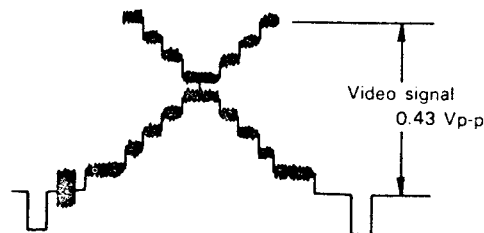

Fig. 26
Amplitude of the video signal component in Fig. 26 is to be approx. 0.2 Vp-p .
- 2) Connect an oscilloscope to video output terminal (CN205 ⑥).
- 3) Adjust the aperture of the lens to set the amplitude of the video signal component in Fig. 26 to 0.43 Vp-p.
Amplitude of the video signal component in Fig. 26 is to be approx. 0.2 Vp-p.